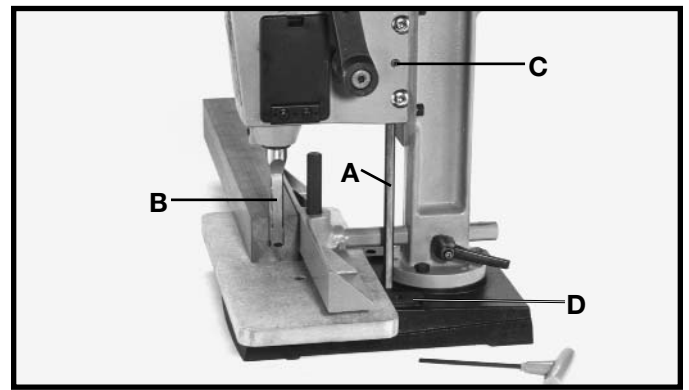

Fig. 29
A depth stop rod (A) Fig. 29, is provided to limit the depth of the chisel (B). To adjust the depth stop rod (A), loosen screw (C) and lower head until the chisel (B) is at the desired depth. Lower depth stop rod (A) until it contacts base (D) and tighten screw (C).